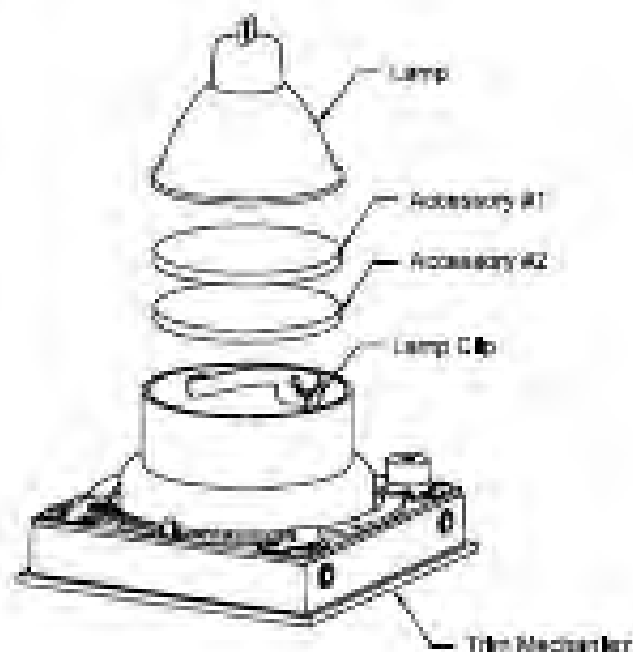

Figure 4
2. Slide out Lamp and/or Accessories from under Lamp Clip to remove. See Fig. 4.